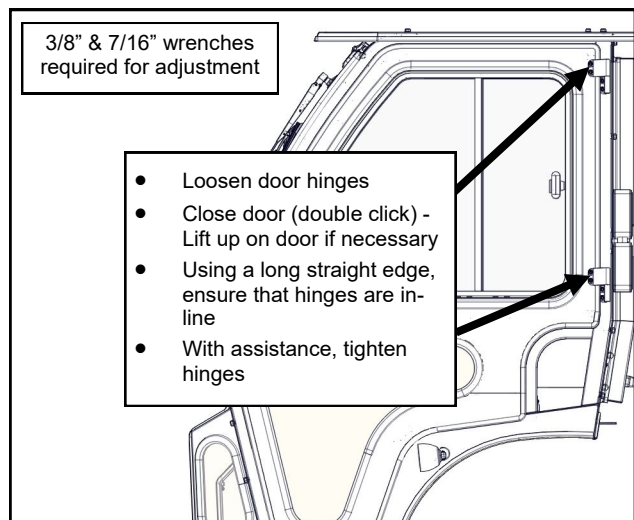

Fig. 21.3c (Door Hinge Adjustment)
- Adjust the hinges located at the rear of the door - See Fig. 21.3c